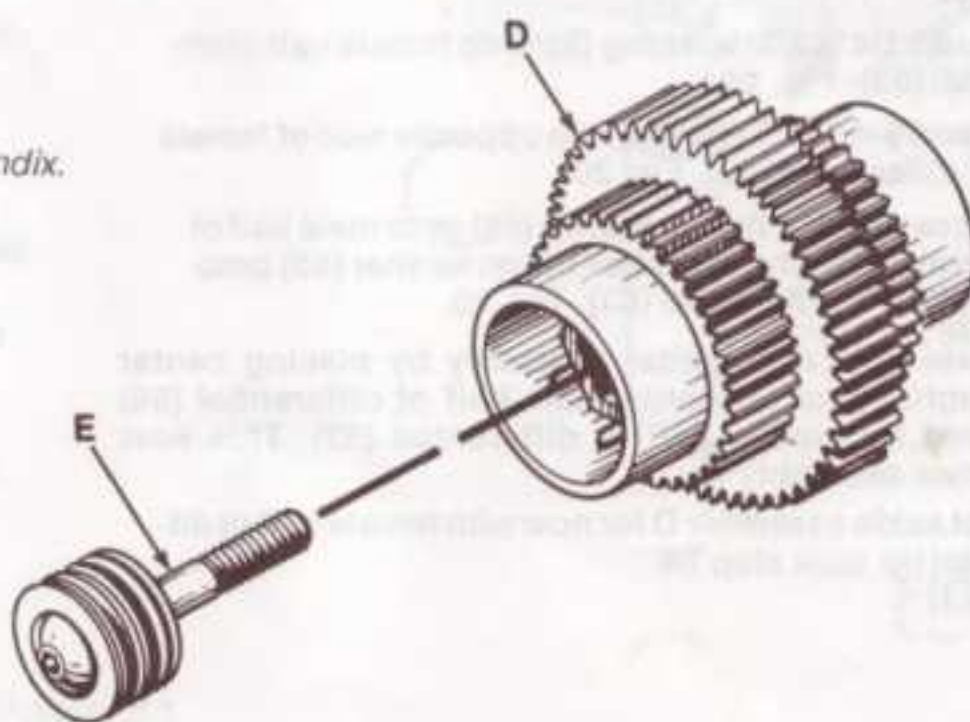

FIG. 22
26. Complete the differential by inserting assembly E into male side of assembly D and screw the 5-40 x 7/8" screw (57) into 5-40 locknut (54) in opposite side of D. Fig. 22. Set aside until step 30.